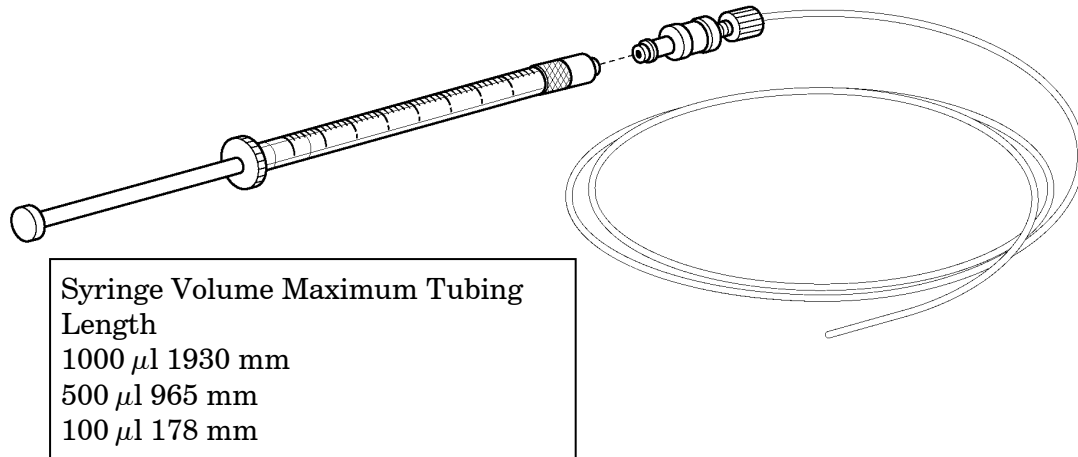

Figure 2-2. Connecting the tubing to the tip of the syringe.
| Figure 2-2. Connecting the tubing to the tip of the syringe.....   | 6 |
6. Connect the tubing to the tip of the syringe as shown Figure 2-2 and gently and slowly push the plunger so that hydraulic fluid moves to the tip of the tubing.
**NOTE:** The tubing length supplied contains approximately 450 microliters of fluid. If a syringe with less than 500 microliters volume is being used, a concomitantly shorter piece of tubing must be attached, otherwise the fluid cannot be pushed to the tubing tip. A guide to syringe volumes and appropriate tubing lengths is shown in the table in Figure 2-2, please refer to the Troubleshooting section for more information.